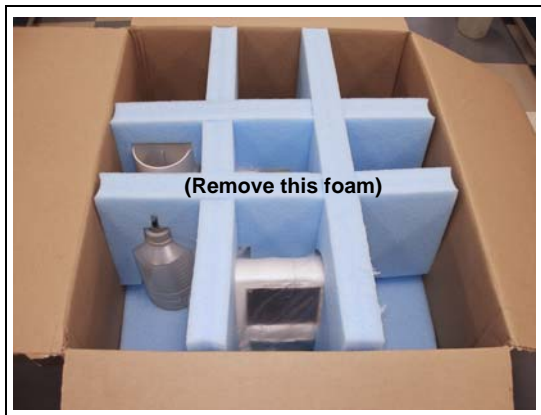

Figure 1. Unpacking the ICS-2100
1. Open the shipping box (see Figure 1) and remove the top layer of foam.